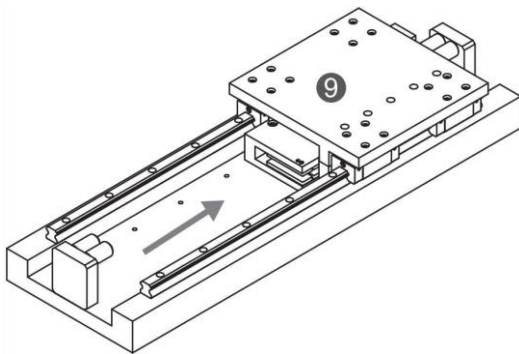

Figure 5.2-5 Forcer installation
- ▶ Move the forcer assembly ⑨ installed properly to the right side, and determine whether there is any interference in the forcer and stator assembly in order to be ready for the installation of the next set of stator. (refer to Figure5.2-5)